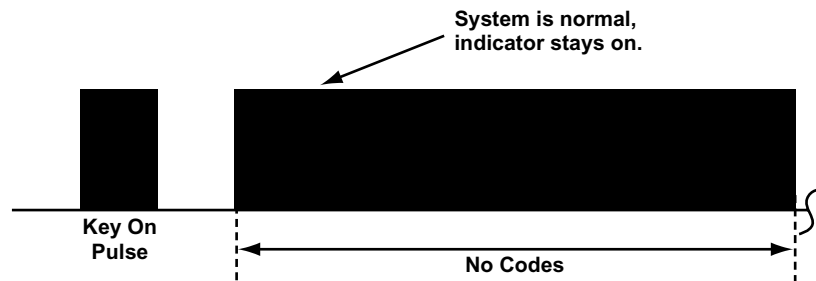

Figure 8-40 Honda SRS Code Type 06 - Normal (no failure), SRS indicator stays on
- Type 06 with no failure, see Figure 8-40 and Table 8-15 on page 83